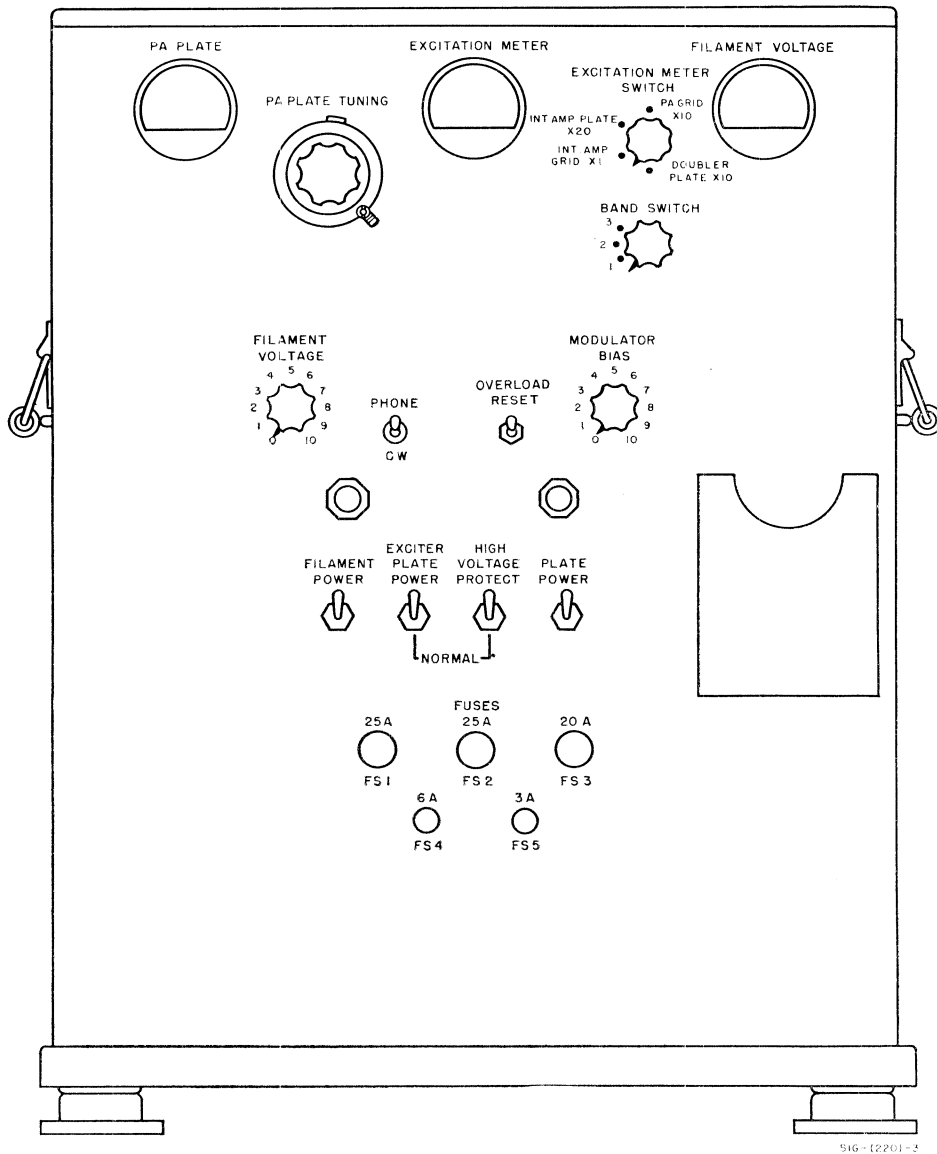

Figure 41. Radio Transmitter T 213/GRC-26, location of controls on front panel.
- (2) Set the BAND SWITCH on the transmitter front panel (fig. 41) to the position corresponding to the channel number into which the desired tuning unit was plugged. Insert the plug end of Cord CG-389/U into the XTAL socket of the tuning unit to be used. The MO-XTAL switch should be set to the XTAL position.
- (3) Select a coil unit covering the desired frequency, and plug it into the position under the left-hand door in the top of the transmitter. Adjust the rotatable link for minimum coupling. (Coupling is gradually increased to the proper amount during final adjustment.) The table below shows the proper coil unit to use when operating at a particular frequency.